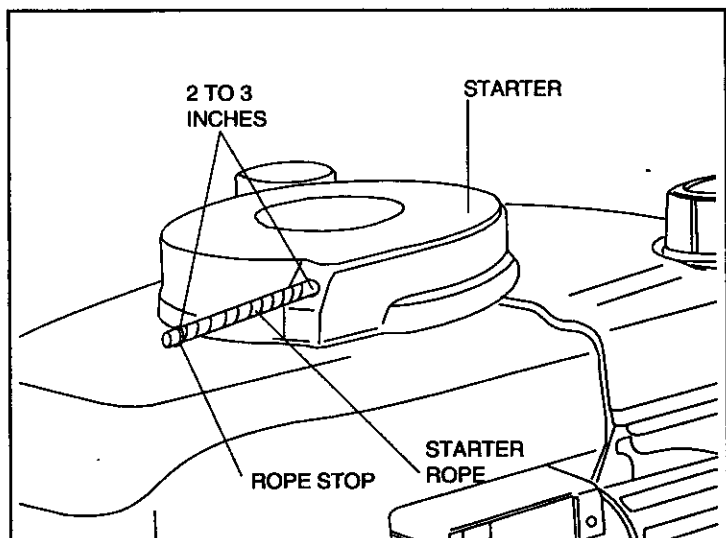
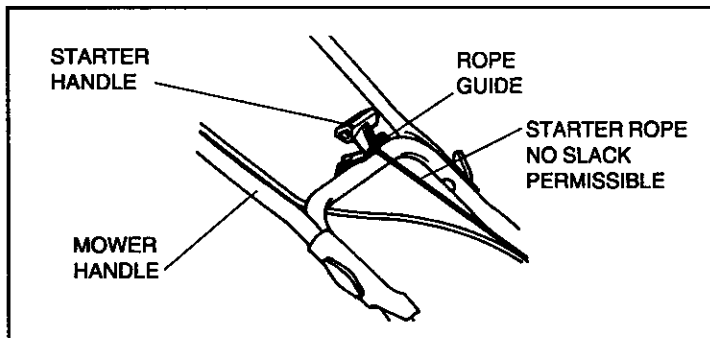

Figure 2
Figure 3
② INSTALL STARTER ROPE:
- B. Slide rope stop (see Figure 2) onto starter rope and feed starter rope through rope guide on mower handle (see Figure 3).
- D. With starter handle resting on rope guide (see Figure 3), check starter rope for slack. If there is any slack, pull more starter rope through starter handle and relocate left hand knot to eliminate slack.
- G. Position rope stop 2 to 3 inches from starter (see Figure 2) and fasten it to starter rope by gripping it with pliers and forcing staple through starter rope until staple is even with outside of rope stop.
③ CHECK OIL LEVEL:
B. Grasp starter handle (see Figure 3) and pull rope out, slowly, until it pulls slightly harder. Let rope rewind slowly. Then pull rope with a rapid full arm stroke. Let rope rewind SLOWLY. Do not let starter handle snap back against rope guide (see Figure 3).